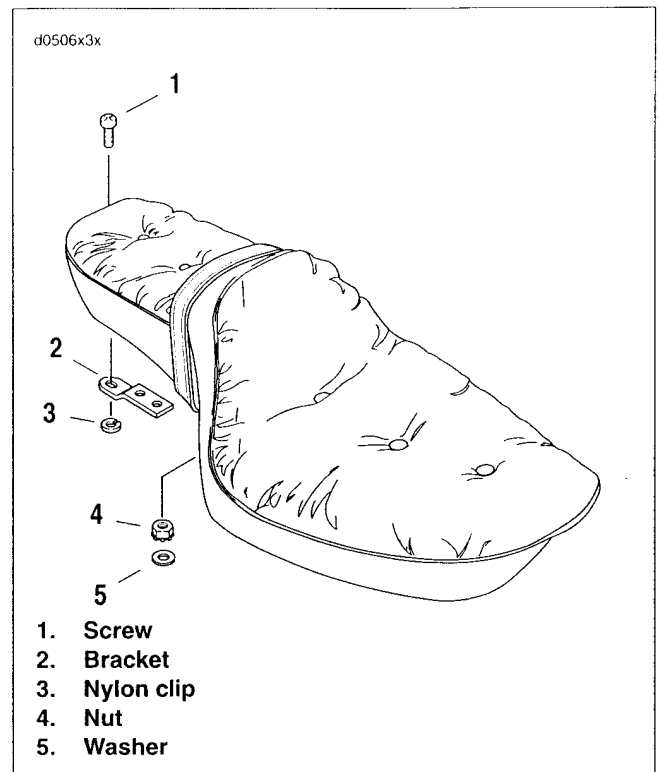

Figure 2-126. Seat
See Figure 2-126. There is a nylon retaining clip (3) between the rear seat bracket and the fender. **DO NOT** lose this clip, substitute a clip of different material or install the seat without this clip. Any of the above actions will result in scratched fender paint.
1. See Figure 2-126. Remove screw (1) from rear seat bracket (2). (Nylon clip remains with fender assembly).
- The strap is secured to the fender under the seat by a nut (4) and washer (5).
3. Remove nut (4) and washer (5).